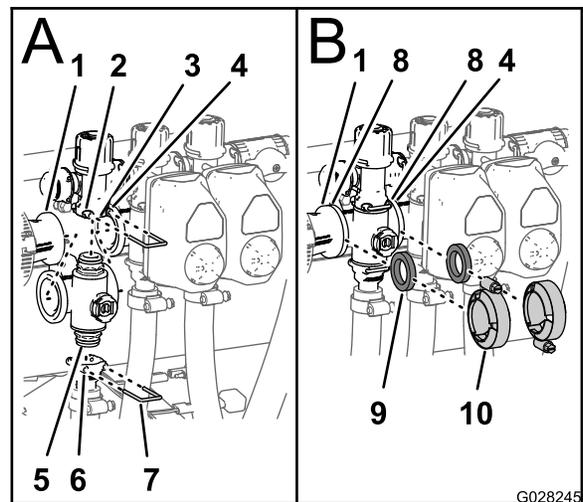

Figure 78
1. Insert the upper end-cap fitting of the manifold valve into the bypass fitting (A of Figure 78).
2. Secure the end-cap fitting to the bypass fitting by inserting a retainer into the socket of the bypass fitting (A of Figure 78).
3. Assemble the outlet fitting onto the lower end-cap fitting of the manifold valve (A of Figure 78).
4. Secure the end-cap fitting to the outlet fitting by inserting a retainer into the socket of the outlet fitting (A of Figure 78).
5. Align a 1 gasket between the flanges of the reducer coupling and the section-valve manifold (B of Figure 78).
6. Assemble the reducer coupling, gasket, and section-valve manifold with a clamp tightened hand-tight (B of Figure 78).
7. If installing the 2 left most section valves, align a 1 gasket between the flanges of the 2 adjacent section-valve manifolds (B of Figure 78).
8. Assemble the and 2 adjacent section-valve manifolds and gasket with a clamp tightened hand-tight (B of Figure 78).